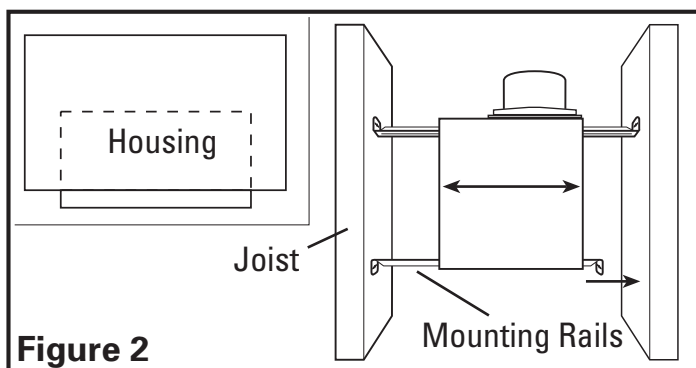
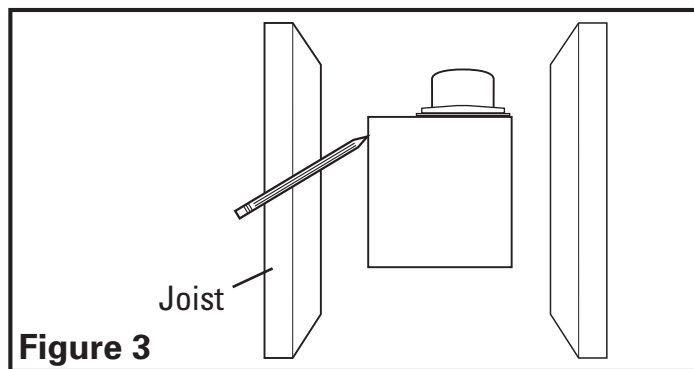

Figure 2
Figure 3
1. Install the rails on the housing and position the housing next to the joist. Line up housing so that it will be flush with the finished ceiling. Secure the ends of the rails with screws or nails (not included) to the joists and slide the housing into the final position (**Figure 2**).
1. Set housing in position between the joist and trace an outline onto the ceiling material (**Figure 3**). Set housing aside and cut opening, being careful not to cut or damage any electrical or other hidden utilities. Install the rails on the housing and position the housing in the previously cut hole so that it is flush with the finished ceiling. Secure the ends of the rails to the joists (**Figure 2**).